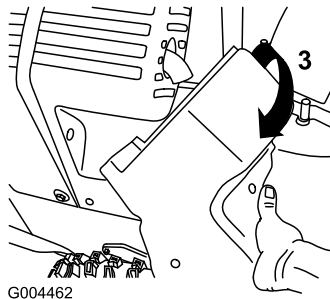

Figure 37
- Remove the fasteners on the right belt cover, then remove the cover in the sequence shown in Figure 37.